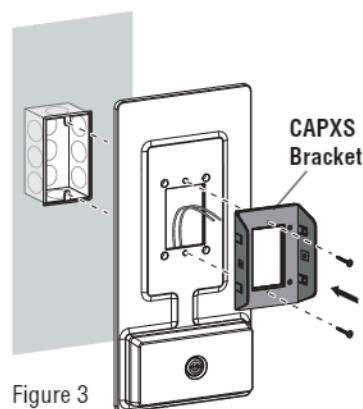

Figure 3
6. Fasten to the gang box or wall through the Mounting Bracket and Trim Panel using the hardware specified in the CAPXS Installation Manual. (See Figure 3)